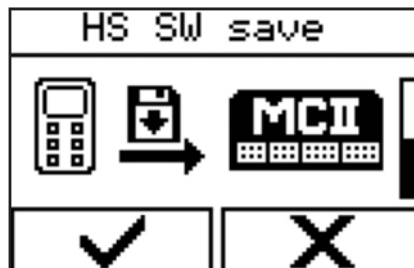

Figure 67 - Selecting a menu
1. Select the menu via 'Hand switch' → 'Update' → 'HS SW Save' (Figure 67).